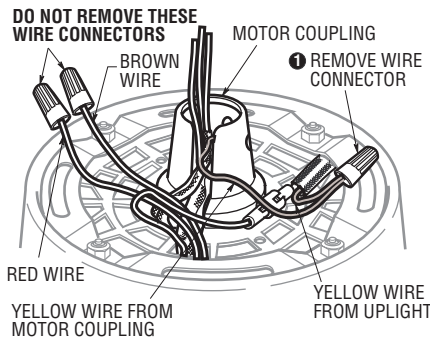
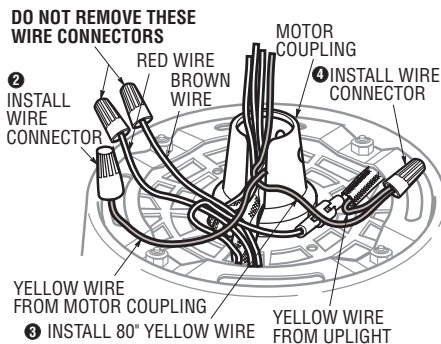

Figure 16
Figure 17
- 13. **For Ceiling Fan Models CF4500 and CF4800 (Newer Models) Only.** Locate the two yellow wires terminated by a wire connector. Remove the wire connector and separate the wires (Figure 16). One yellow wire comes from the motor coupling; cap the end of this wire using a wire connector (supplied) (Figure 16). Separate, untwist and unkink the 80" yellow wire lead (supplied with the fan) and cut off the connector from the end of the wire. Strip 1/2-inch of insulation from the end of this wire. Then join the 80" yellow wire to the yellow wire from the upright using a wire connector (supplied). (Figure 17).